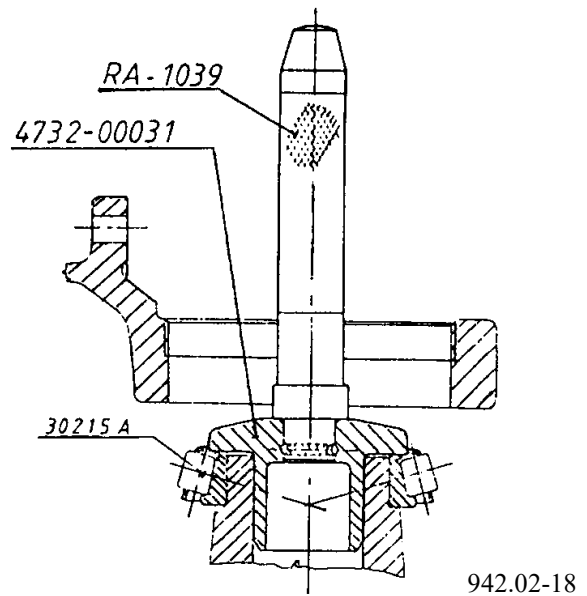

Fig. 2.: DRIVING ON THE TAPER ROLLER BEARING INNER RACE
Position the cone of the taper roller bearing (19) to the differential case half (24) and by means of the tool shown drive on to bottom out (see Fig. 2.).